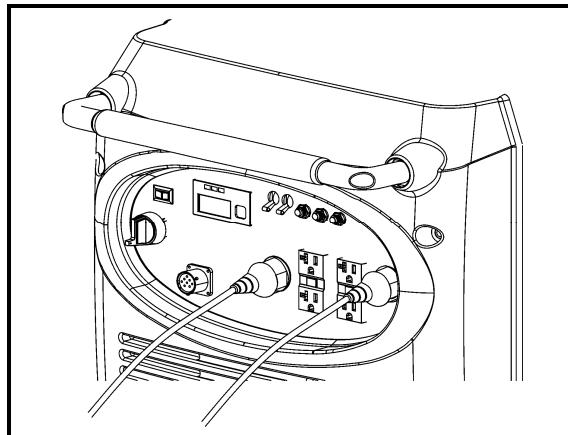

Figure 15 Connection of appliance and generator
2. Confirm the connected appliance is switched off, and insert the appliance plug to the generator receptacle. (See figure 15)